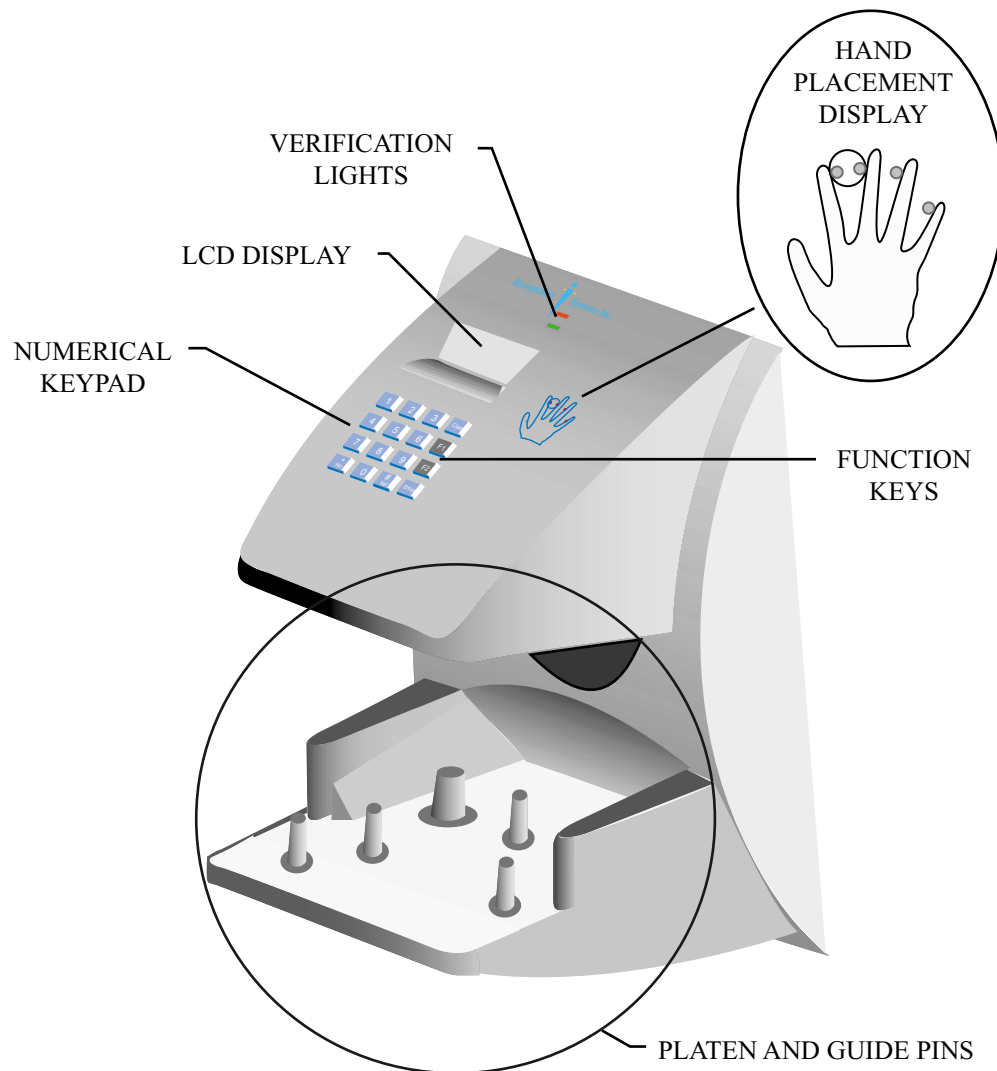

Figure 1-1: The HandKey II
2. The Platen is the flat surface at the base of the Hand Reader (see Figure 1-1). This is where users place their hands for enrollment and verification. It has guide pins to position the fingers during use.
The Hand Reader is an intelligent access control system that can operate as a stand-alone unit, in a network with other Hand Readers, or in a network with a host computer. Refer to Figure 1-1 when reviewing the information in this section.